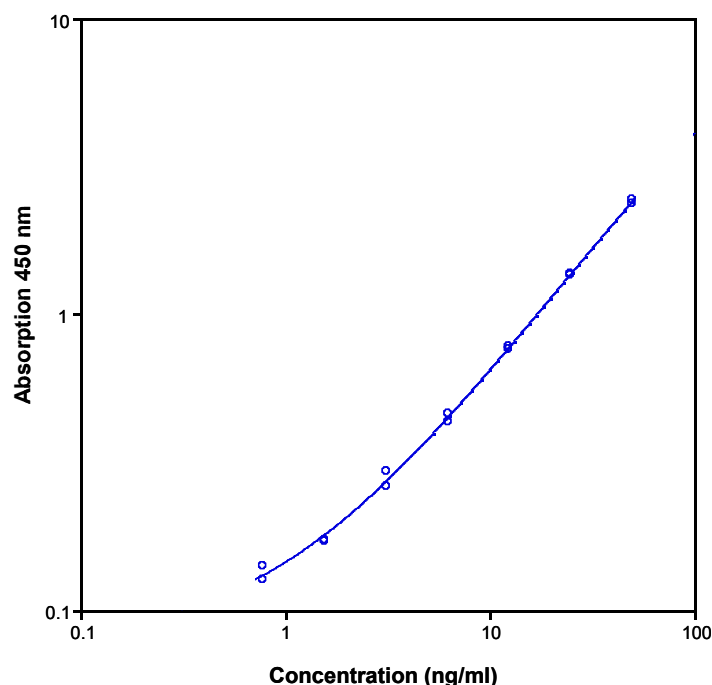

Fig. 8 Representative standard curve for Human APRIL/TNFSF13 ELISA Kit . Human APRIL/TNFSF13 was diluted in serial 2-fold steps in Sample Diluent.
- A representative standard curve is shown in Figure 8.